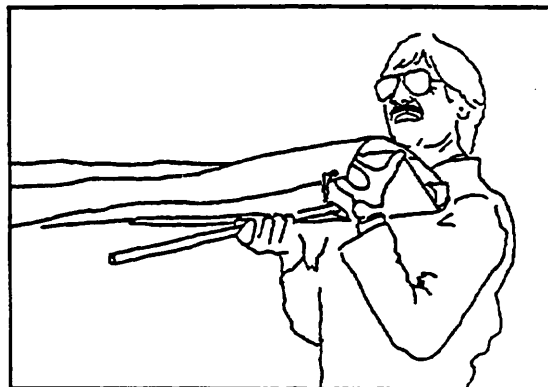

Figure 36
Note: Instruction 19 and figure 36 apply only to pre-1991 HP AT's. 1991 and later model HP AT's do not have washout tips.
19) Install the washout tips. To help achieve the proper engagement of the button spring in the plastic washout tip receptacle, insert the washout tip into the receptacle with the button pointing toward the rear end of the leading edge. A slight rotation in either direction after insertion of the washout tip will cause the button to click into place. (Figure 36)